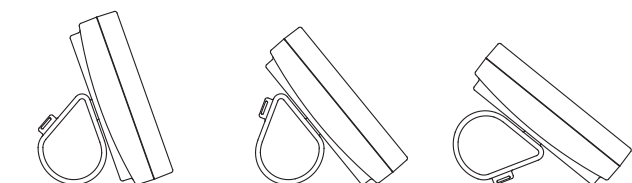

FIG. 94
2. The angle may be adjusted by reorienting the support in the battery cover (See Figure 94).